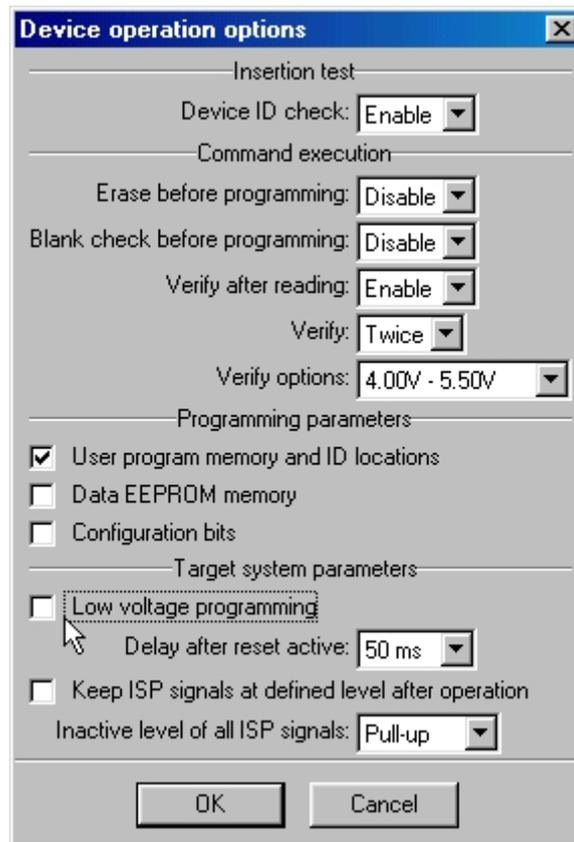

FIGURE 12: DEVICE OPERATION OPTIONS WINDOW OF PG4UW
- C) Open the window of programming options configuration pressing the key ALT and, at the same time, pressing letter "o" and uncheck the box called "Low Voltage Programming" as shown in figure 12.